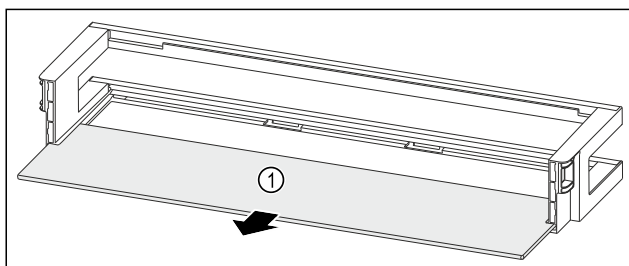

Fig. 92 Door rack with shelf
- ▶ Remove the shelf Fig. 92 (1).